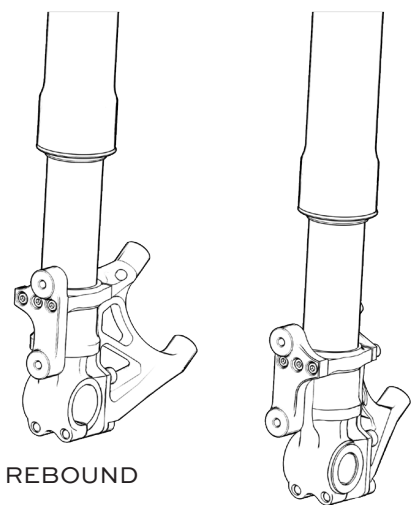

Fig. 5
3. Install fender mounts (M5 Screws, 4Nm/35in-lbs). **(See Fig. 5)**